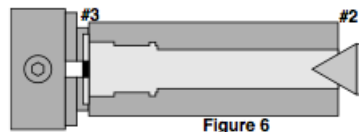

Figure 6
17. See Figure 6. Reverse mount Mill Body using tenon #3, using reference mark from step 10 above, mount between jaws 1 & 4 using live center to align blank.